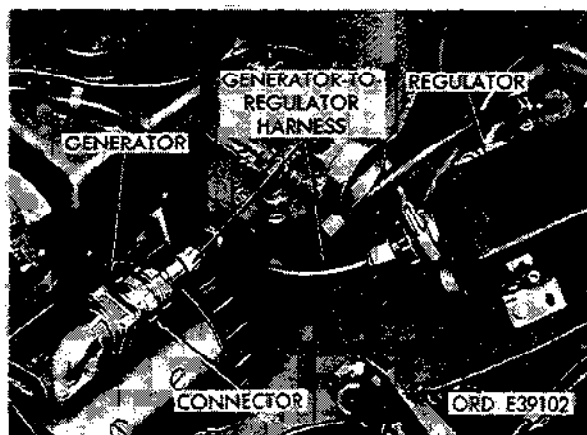

Figure 2-176. Disconnect generator-to-regulator cable connector.
- (3) Using spanner wrench, disconnect generator-to-regulator cable connector at regulator and pull plug out of receptacle (fig. 2-176).
(2) Using spanner wrench, disconnect generator-regulator harness connectors at regulator receptacle (fig. 2-176) and at generator receptacle. Remove harness.